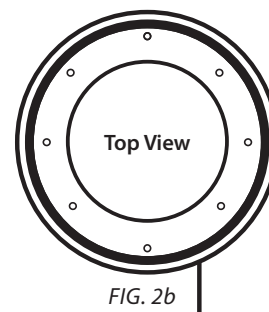

FIG. 2b
- Apply to the top rim of the Barrel (C) outside of the bolt holes [FIG. 2b].